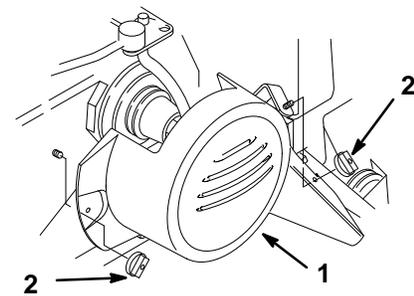

Figure 16
3. Remove the two wing nuts and belt cover from the tractor (Fig. 16) and store the cover and hardware in a safe place.
6. Install belt cover (Fig. 16).